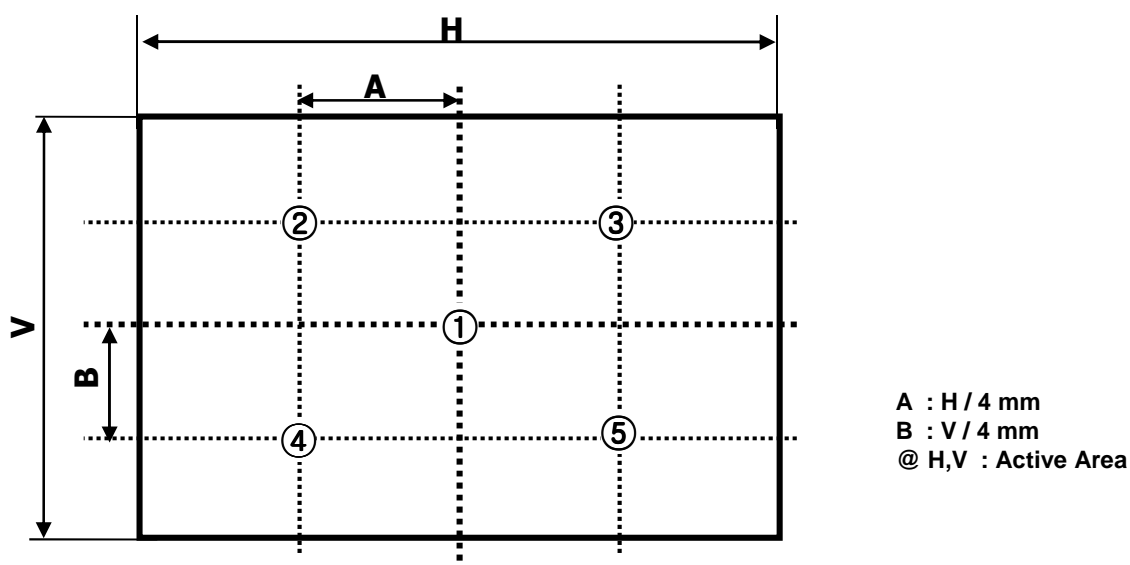

FIG. 2 5 Points for Luminance Measure
n = the Position number(1, 2, 3, 4, 5). For more information, see FIG 2.
2. Surface luminance is determined after the unit has been 'ON' and 1 Hour after lighting the backlight in a dark environment at $25 \pm 2^\circ\text{C}$. Surface luminance is the luminance value at center 1-point across the LCD surface 50cm from the surface with all pixels displaying white. For more information see the FIG. 2.
For more information, see the FIG. 2.